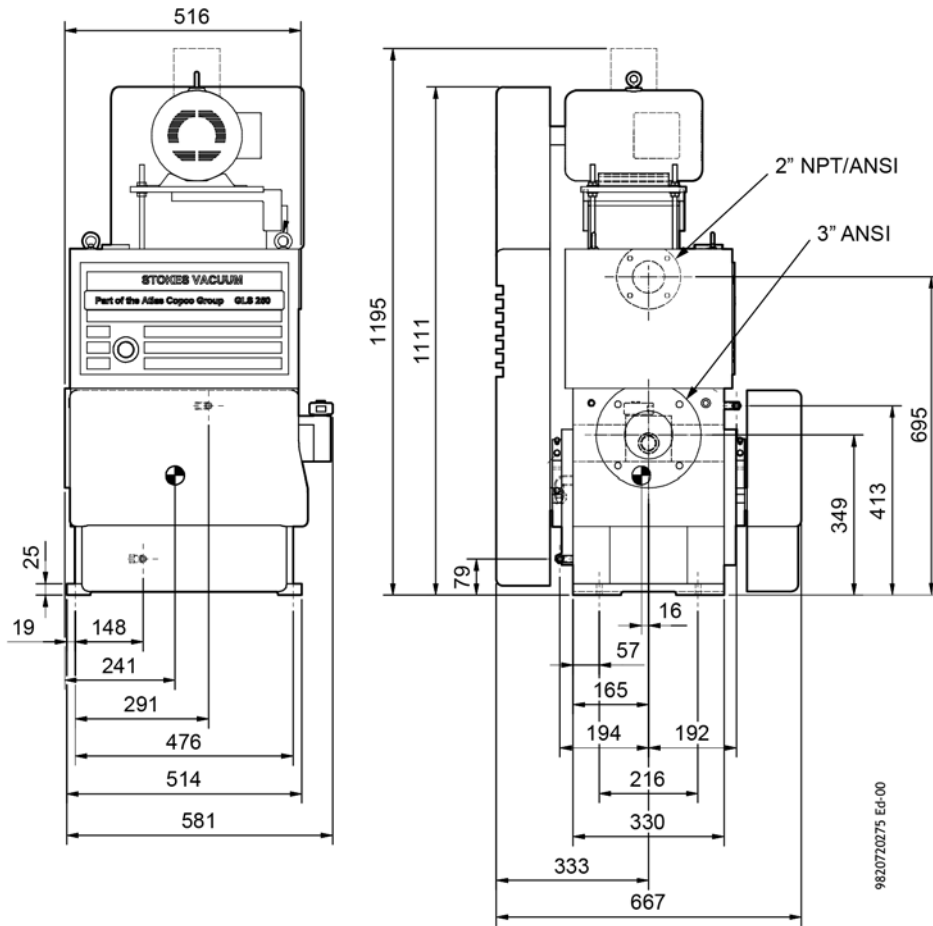

Figure 4 – GLS 250 pump dimensions
Technical specifications for GLS pumps are provided in Table 2. Pump dimensions are shown in Figures 4 and 5.
Mount the pump on a rigid foundation, such as a concrete floor, and level with shims or by grouting. Mount the pump to the foundation ensuring not to put strain or twist in the pump housing. See Figures 4 and 5 for foundation mounting dimensions. The pump should be mounted to the floor using the four (4) pre-drilled mounting holes in the pump base.